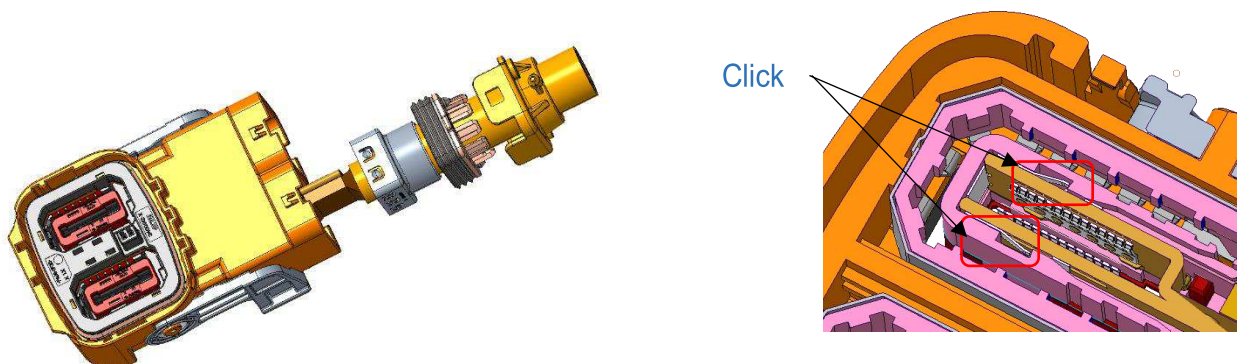

Figure 10: Insert cable assembly into the plug housing
- Hex crimp dimensions per figure 10 and table 9